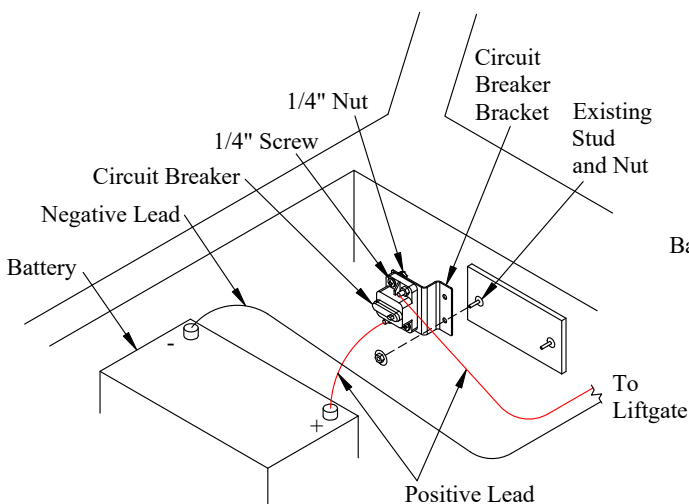

Figure 14: Circuit breaker bracket.
1. **Install** the circuit breaker on the circuit breaker bracket with 1/4" screws and nuts (Figure 14).